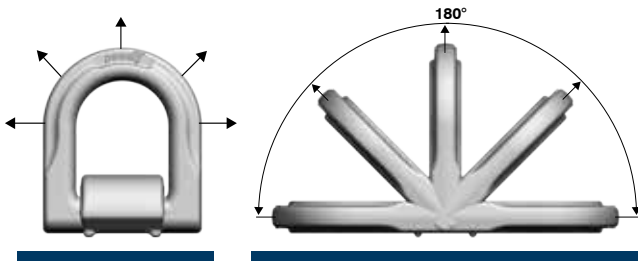

Fig. 1: Permissible pull directions that occur when used correctly.
- Loading must always take place in the stated direction (fig. 1 under section 2 of this manual), with the maximum lashing capacity according to table 1 and taking into consideration the operating conditions stated in section 2.
Load: Loading must always take place in the stated direction (fig. 1) with the maximum lashing capacity according to table 1 and taking into consideration the operating conditions as specified here.
- The pull direction is not in the specified area acc. to fig. 1.